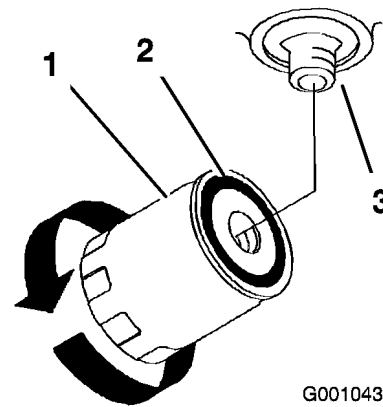

Figure 66
4. Apply a thin coat hydro fluid to the rubber gasket on the replacement filter (Figure 66).
6. Fill the hydraulic tank with hydraulic fluid until the fluid overflows the filter and then turn the oil filter clockwise until the rubber gasket contacts the filter adapter, then tighten the filter an additional 1/2 turn (Figure 66).